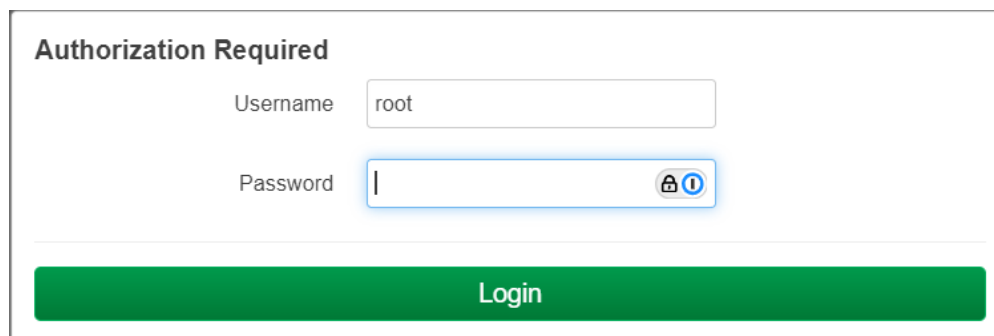

Fig 3: The KNX IoT Hub Login screen.
- Figure 3 : The KNX IoT Hub Login screen.